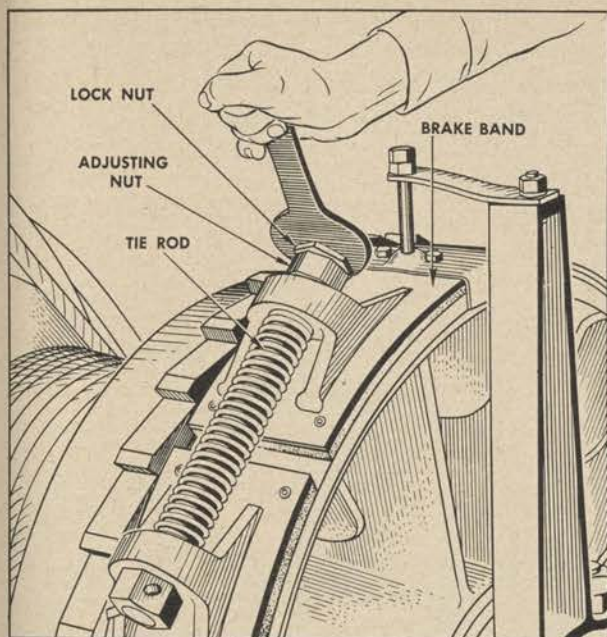

Figure 241. Tightening brake band.
(2) *Brake adjustment.* (a) Tighten or loosen the brake band by turning the brake band adjusting nut. (See fig. 241.)
(3) *Installing new brake band (fig. 241).* (a) *Removal.* Remove tie rod lock nut and tie rod